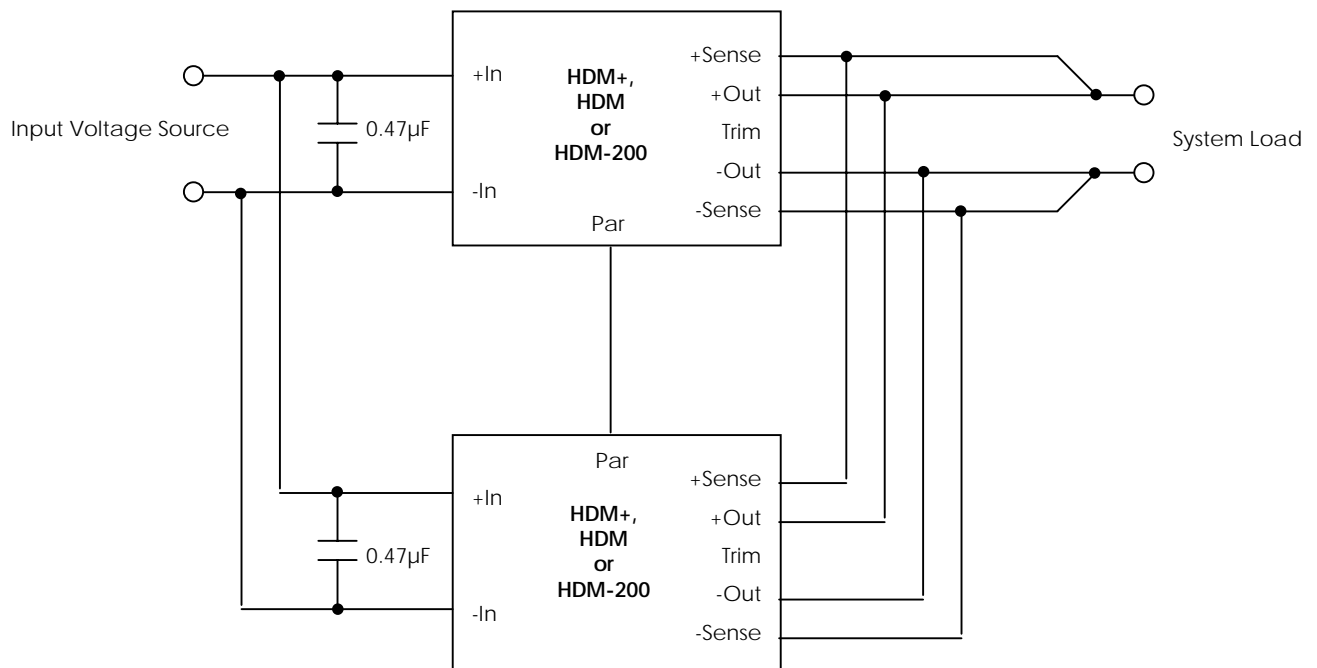

Figure 1: Parallel Connection of (2) HDM+, HDM, or HDM-200 Series Converters with No Redundancy
See Figure 1 for example of paralleling (2) converters without redundancy.